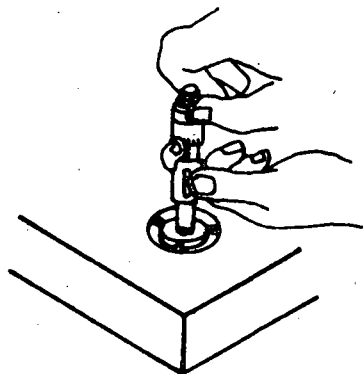
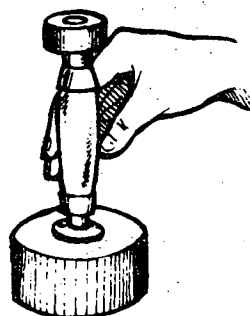

Fig. 3
Fig. 4
c) Measure it with an inside micrometer (Fig. 3) or a fixed "plug" caliper (Fig. 4).